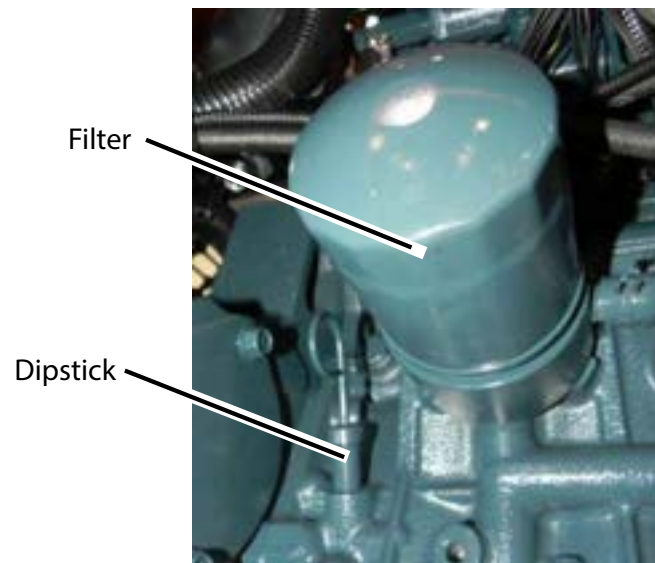

Figure 5-13. Engine Oil Dipstick and Oil Filter
3. Clean the area around the engine oil dipstick before removing it from the engine. **(Figure 5-13)**